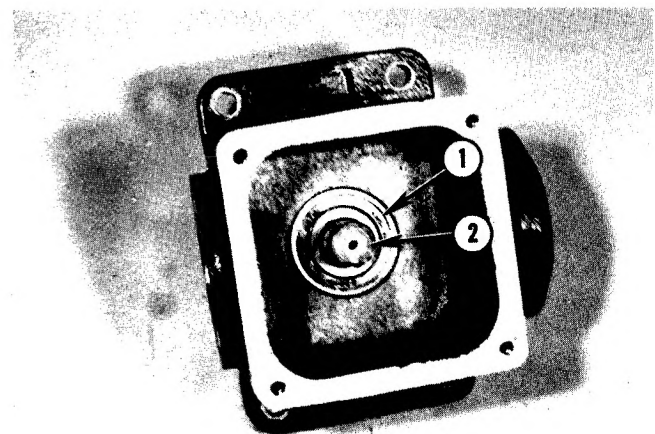

FIG. 10.12--OUTPUT SHAFT BEARING INSTALLED
17. Install another bearing over other end of output shaft and against retaining ring, Fig. 10.12.